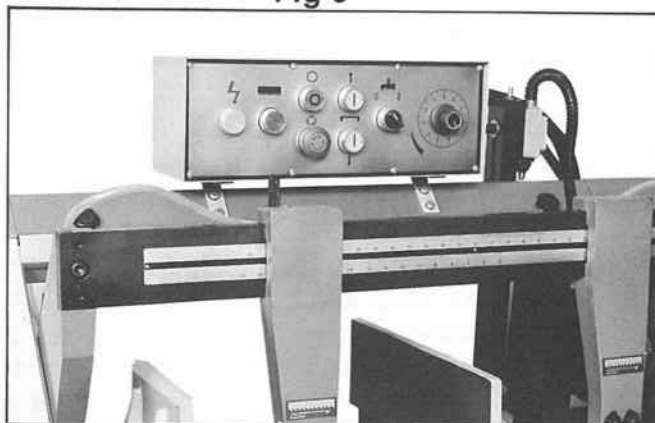

Fig 7
The saw frame must be in the raised position before starting the machine. The machine is started by pushing the start button (A) Fig. 7, and will continue to run until the saw frame is in the down position at the end of the cut, or when the stop button (B) is pushed. Pushing the stop button (B) will stop the motor at any time.